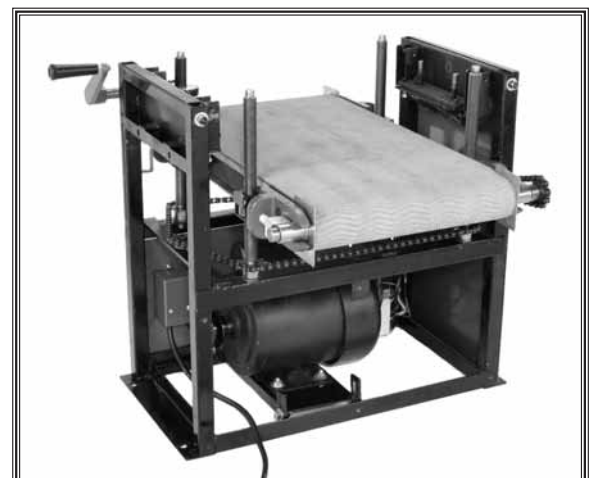

Figure 47. Drum sander disassembled to Step 10.
10. Remove the guard covers for the conveyor front and rear rollers (eight Phillip head screws). The drum sander should now look similar to **Figure 47**.